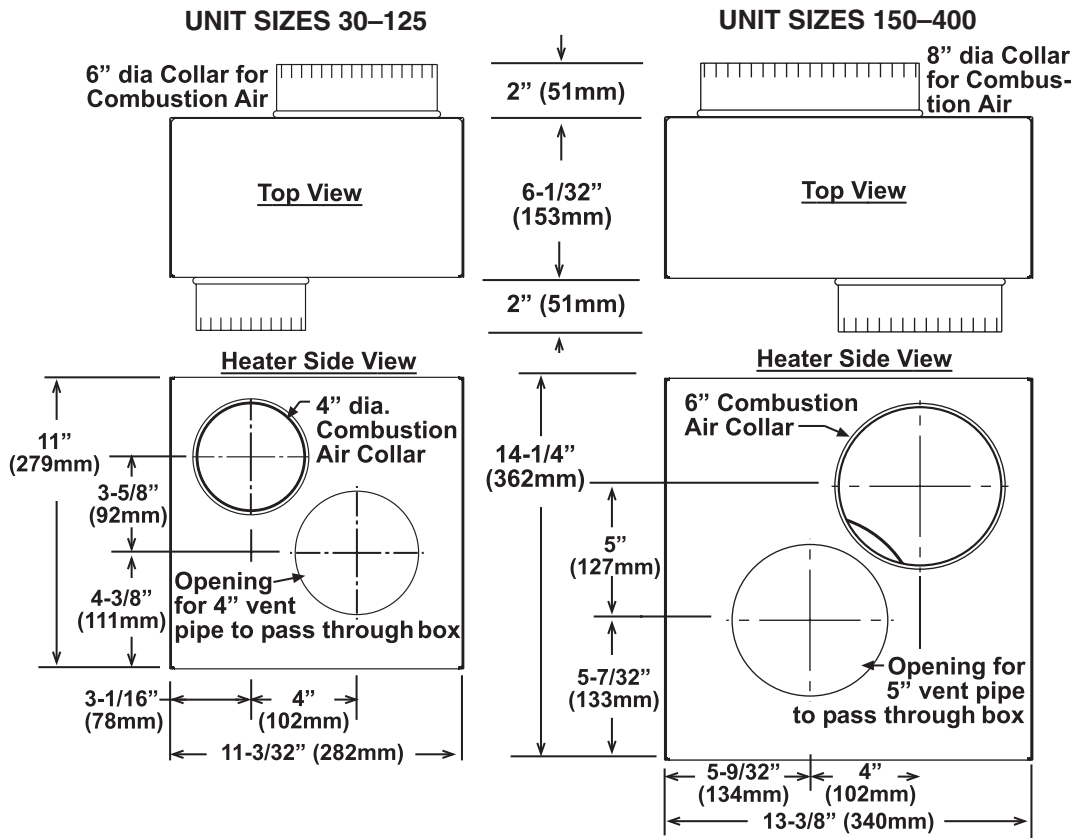

Figure 4. Concentric Adapter Box Dimensions (Refer to Table 5)
- When pipe diameters differ, depending on the direction of airflow, join the pipes with either a taper-type reducer or increaser. Requirements vary depending on the unit size. The connection requirements are the same for both vertical and horizontal systems, but the length of pipe required varies by installation. See **Figure 4** for concentric adapter box dimensions. **Table 5** lists vent pipe opening diameters shown in **Figure 4**.
*See Figure 4.